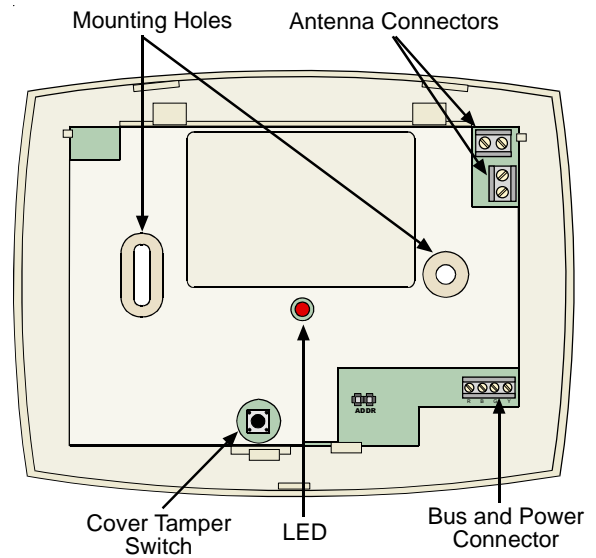

Figure 5: Receiver with Outer Cover Removed
- Place the receiver base on the wall at the desired mounting location and mark the two mounting holes (see *Figure 5*).